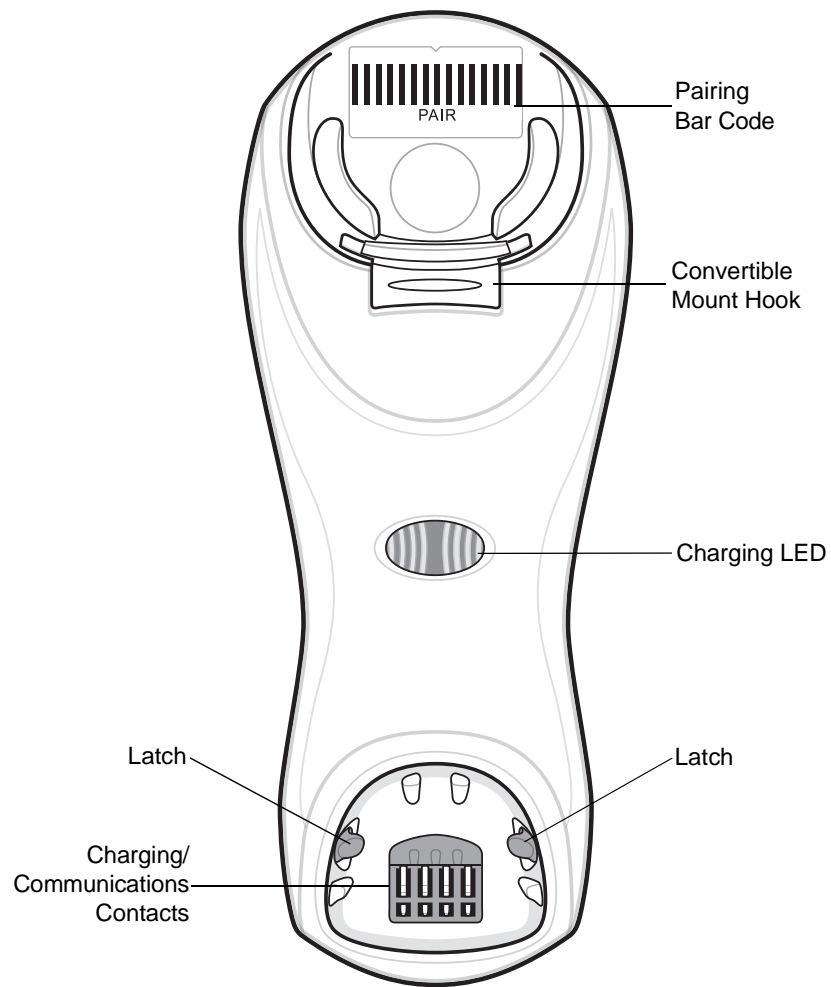

Figure 1-3 *Cradle Front View*
2. Ensure the convertible mount hook on the front of the cradle is inserted with the hook facing up. If not, remove and reverse the hook so that it is in position to secure the digital scanner in place. (See Figure 1-3 on page 1-4 for the location of the convertible mount hook.)